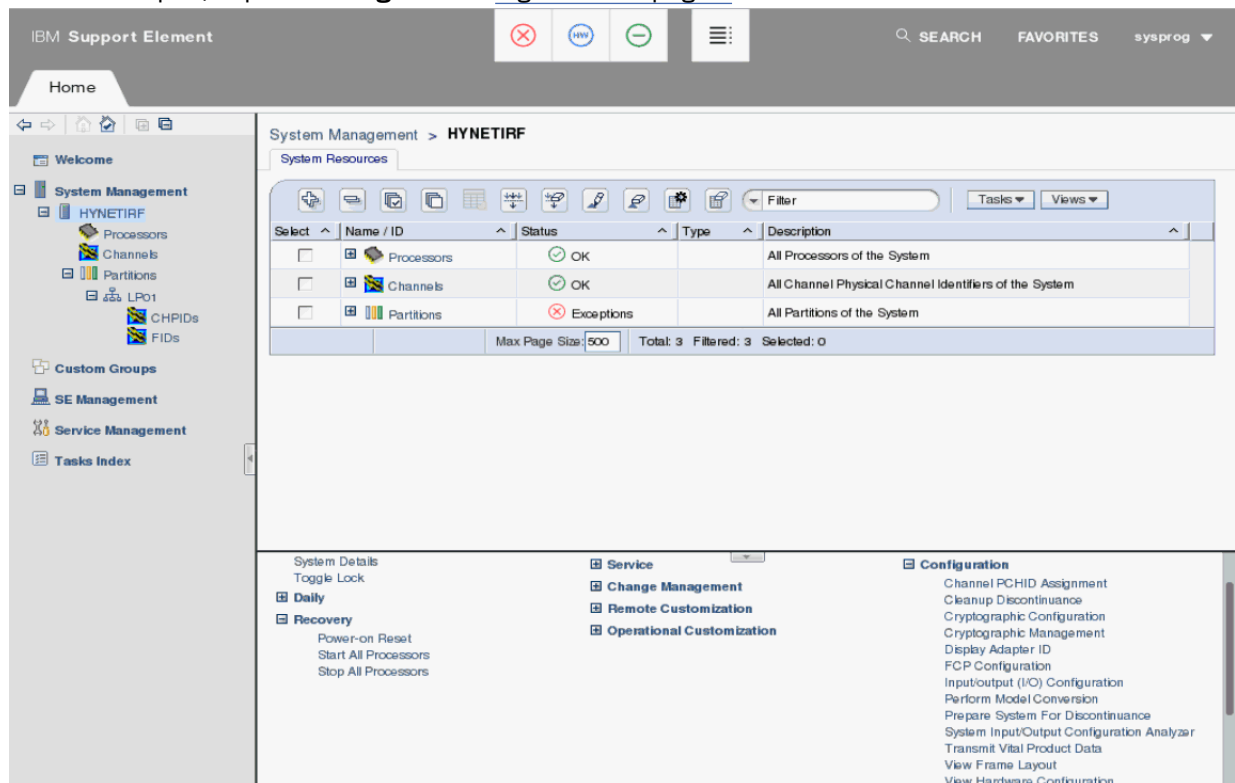

Figure 14. Navigation expanded on left and task category expanded on right
1. In the Support Element workplace window, in the navigation pane in the left portion of the window, ensure **System Management** and the system are expanded. You can use the **Input/Output (I/O) Configuration** task on a server or a partition. If the task target is a partition, ensure **Partitions** is expanded. Figure 14 on page 9 shows these expansions in the navigation pane on the left.
2. In the tasks pad, expand **Configuration**. Figure 14 on page 9 shows this window.